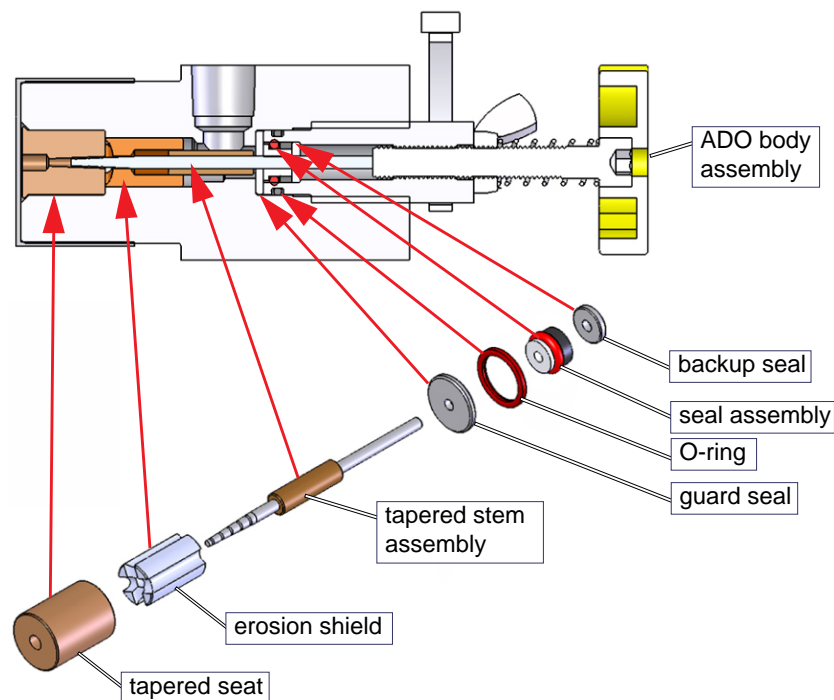
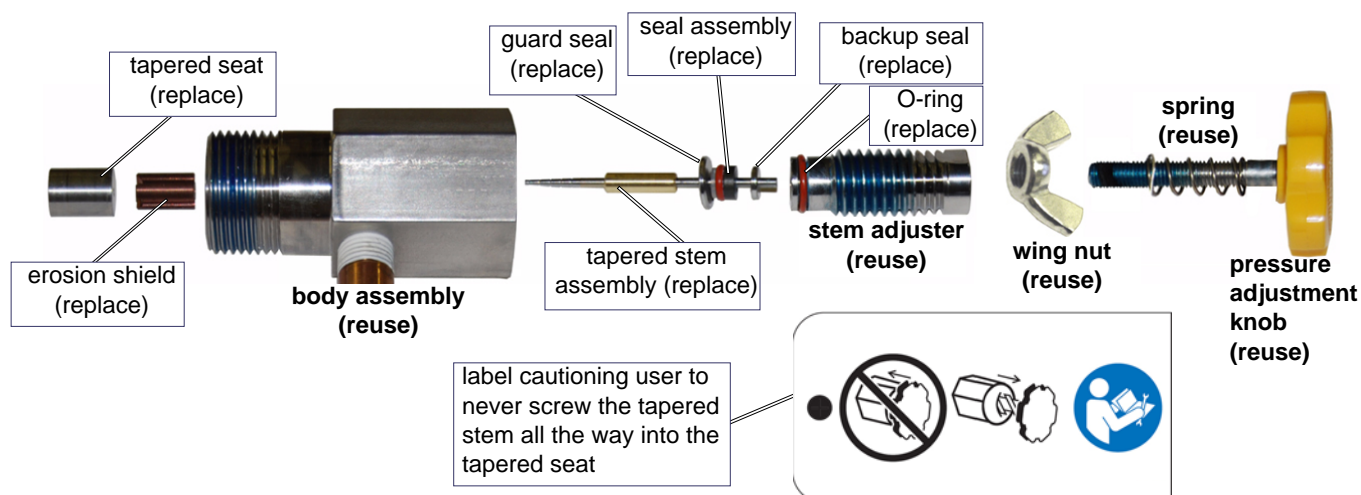

Figure 1: Adjustable Dump Orifice Rebuild Kit Components
Figure 11: Replaceable ADO Components
This document explains how to replace the wear items in an OMAX[®] Adjustable Dump Orifice (ADO) using the OMAX rebuild kit, P/N 306500. See Figure 1.
Note: ADO disassembly involves disconnecting the on/off valve with the air actuator attached and removing all internal components of the body assembly that are being replaced in the retrofit kit. See Figure 11 for components:
5. Remove and discard each seal component identified below (Figure 11), replacing them with the parts provided in the ADO rebuild kit (see Figure 1).